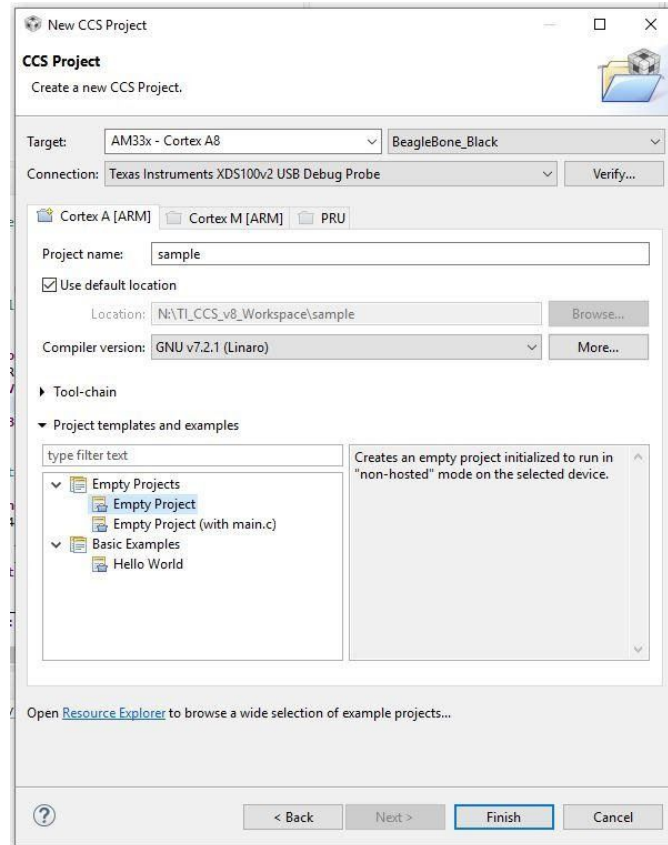

Figure 16 : Project Template
- Next, you may optionally insert your project name in the Output file box as, for example, sample.out and insert your project name in the map file box as, for example, sample.map and click OK. If left as depicted in Figure 16, CCS will substitute the project name for you.